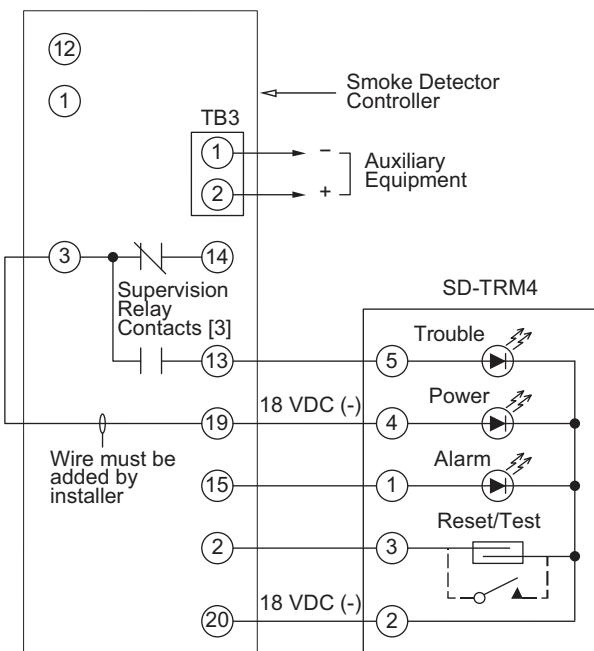

Fig. 46 — Remote Test/Reset Station Connections
The test/reset station dirty sensor test checks the test/reset station's ability to initiate a sensor dirty test and indicate the results. It must be wired to the controller as shown in Fig. 46 and configured to operate the controller's supervision relay. For more information, see "Dirty Sensor Test" on page 25.
1. Verify that the remote test/station is wired as shown in Fig. 46. Repair or replace loose or missing wiring.